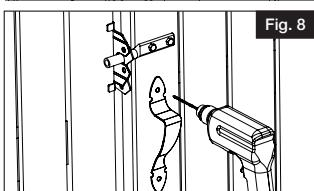

Fig. 8
- a. Drill 7/32" pilot holes on the gate for handle location (Fig. 8).